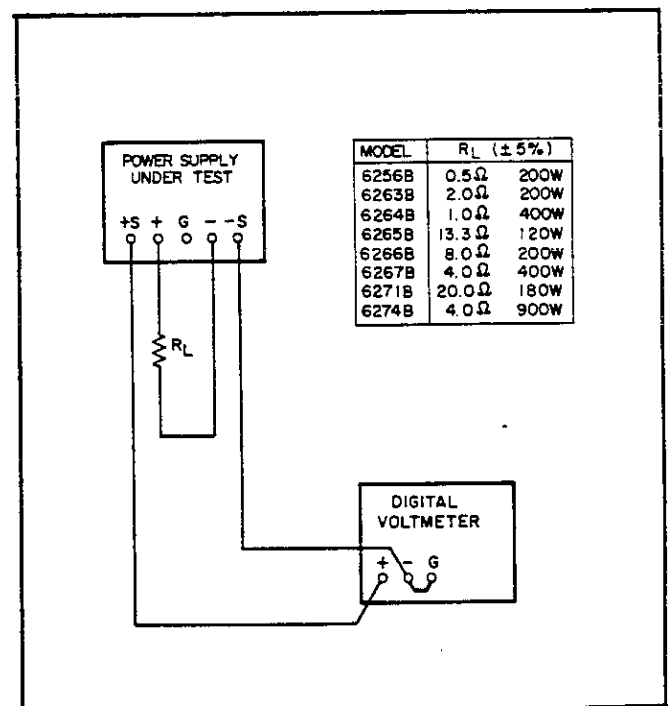

Figure 5-1. Constant-Voltage Load Regulation Test Setup
- Connect load resistor (R_L) indicated in Figure 5-1 across output terminals of supply.
- Connect test setup shown in Figure 5-1.
- a. Connect load resistance and digital voltmeter as illustrated in Figure 5-1.